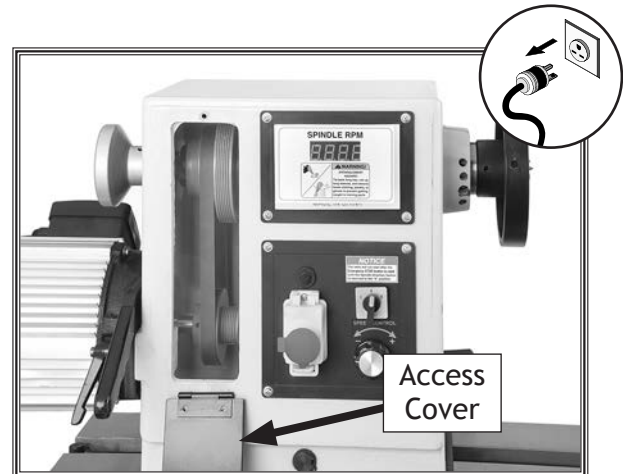

Figure 32. Belt access cover removed.
2. Open front belt access cover, as shown in Figure 32.